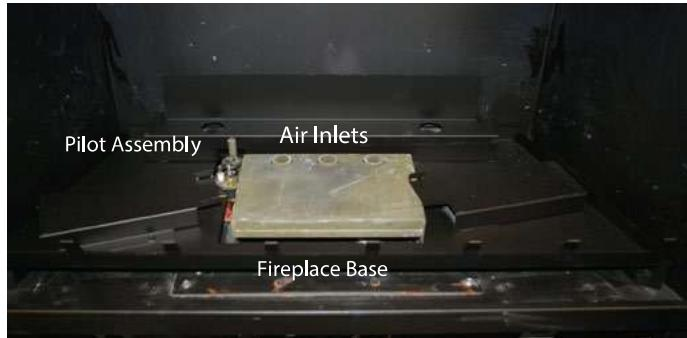
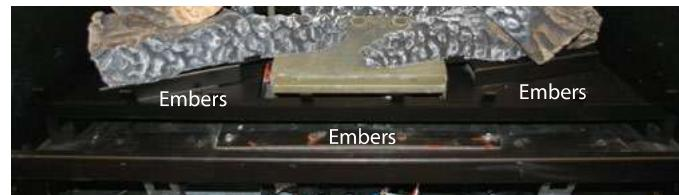

Figure 8a. *H34VON**'s Fireplace Base.
Figure 8f. Placing Embers.
Step 7. Place the Embers as shown in **figure 8f**. Arrange the ember chips on top of the burner tray. Care should be taken when placing the embers, as blocked burner ports may cause an incorrect flame pattern, carbon deposits and delayed ignition. Also, the embers must never be placed in a way that obstructs any of the air inlet ports, located at the rear of the burner, as shown in **figure 8a**.